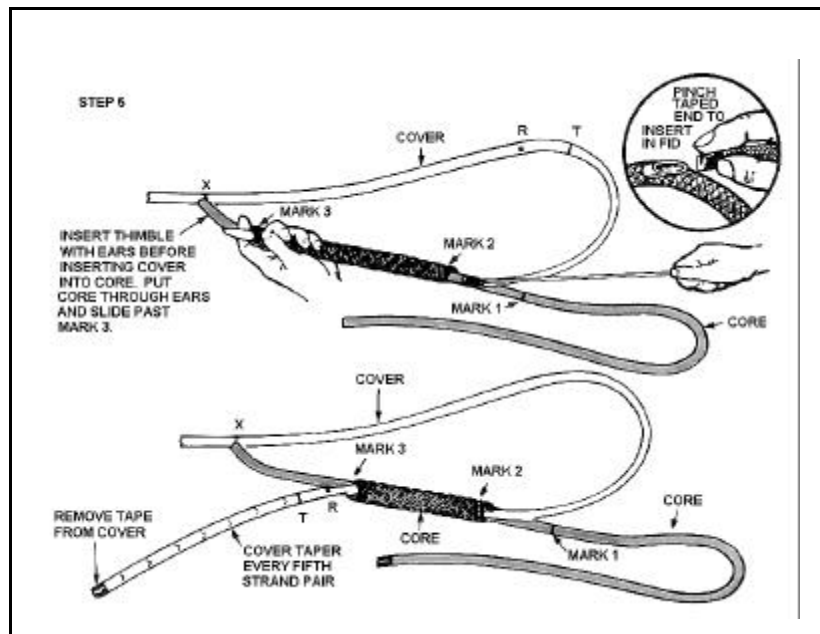

Figure 12-56. Putting the Cover Inside the Core
- STEP 5 -- Putting the cover inside the core.** Insert fid into core at Mark 2. Slide it through and out at Mark 3. Add extra tape to cover end; then jam it tightly into the hollow end of fid (see Figure 12-56 insert). Hold core lightly at Mark 3, place pusher point into taped end, and push fid and cover through from Mark 2 and out at Mark 3. Press prongs of wire fid into cover. Then tape over them. After the fid is on, milk braid over fid while pulling fid through from Mark 2 to Mark 3. Take the fid off the cover. Continue pulling cover tail through the core until point R on the cover emerges from Mark 3. Then remove tape from end of cover.